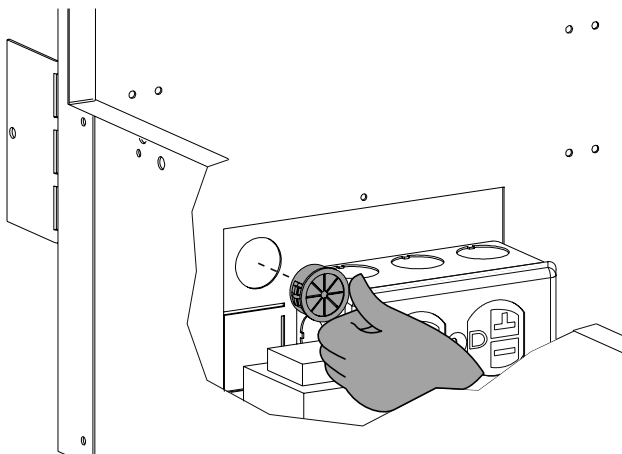
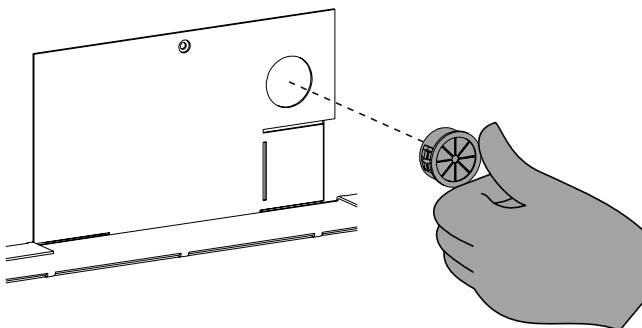

Figure 32
Figure 33
14. Install the provided plastic bushing in the opening where the wires exit the fireplace. **See Figure 32 (left side), or Figure 33 (right side).**